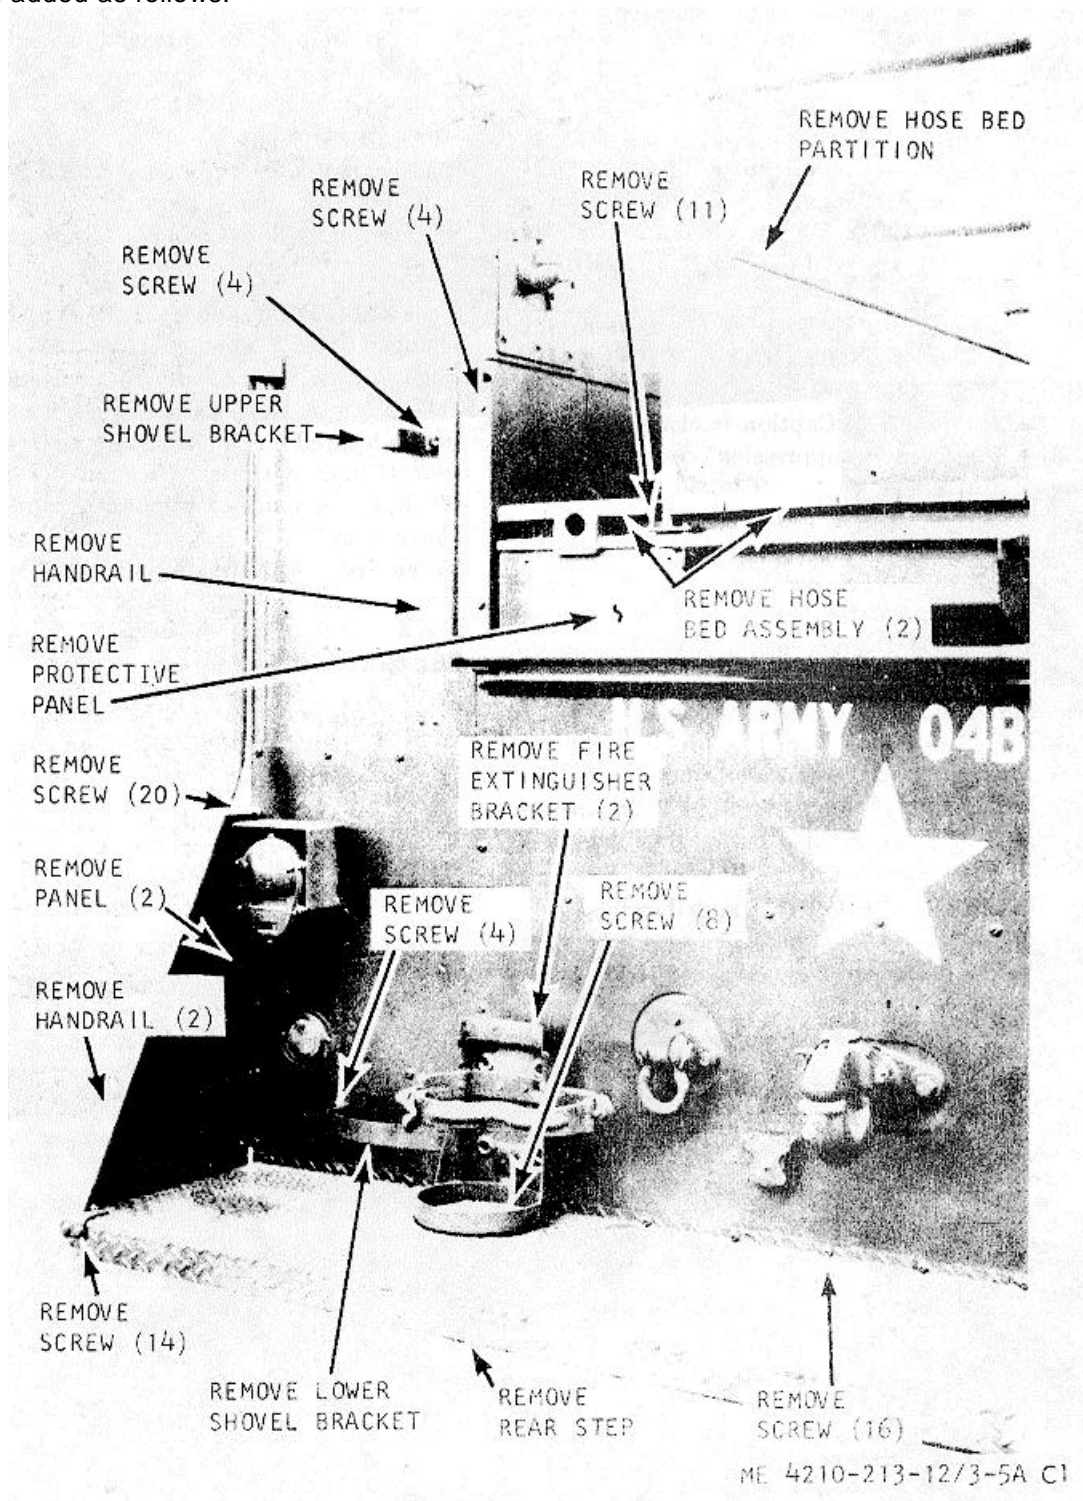

Figure 3-5A. Hose bed assemblies, handrails, rear step, protective panel, and brackets, removal and installation for model FT-500.
a. *Removal.* Refer to figure 3-5A and remove the protective panel.
(1) Clean all parts with dry cleaning solvent P-D-680, and dry thoroughly.
(2) Inspect all parts for damage or defective condition.
(3) Replace or repair damaged or defective parts as necessary.
c. *Installation.* Refer to figure 3-5A and install the protective panel.
Figure 3-5A is added as follows: